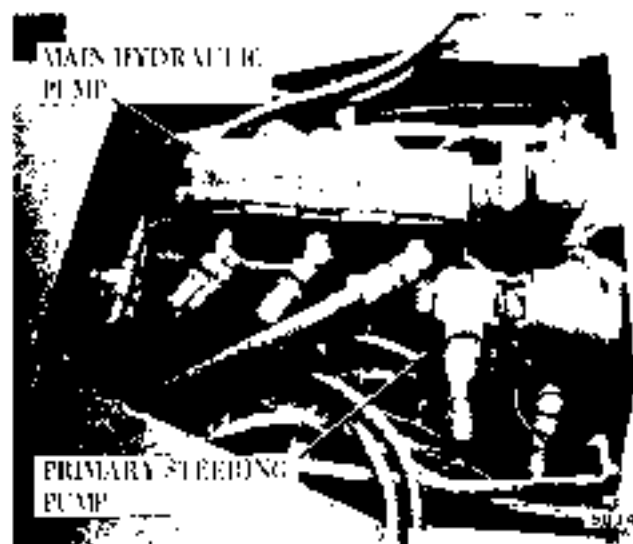

Figure 2-13. Hydraulic Pump and Steering Pump
1. **Pump.** The hydraulic pump is a three-section gear type, driven directly from the torque converter power take-off (PTO), and produces a flow rate of up to 112 gallons per minute at pressure up to 2500 psi. (See Figure 2-13.) A manually operated pump disconnect is provided for extended over-the-road travel or cold weather starting.